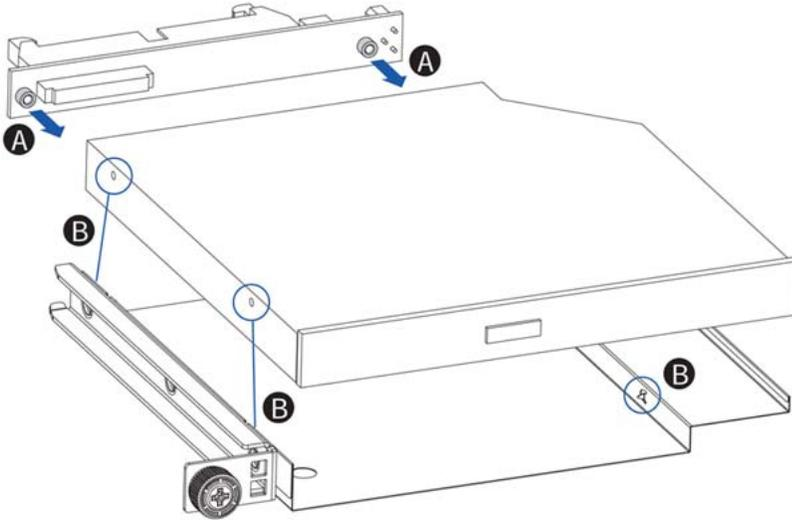

Figure 23: Attaching DVD drive to bracket
16. Tighten the blue captive screw at the left side of the drive assembly. For details, see A in Figure 23: Attaching DVD drive to bracket on page 87.